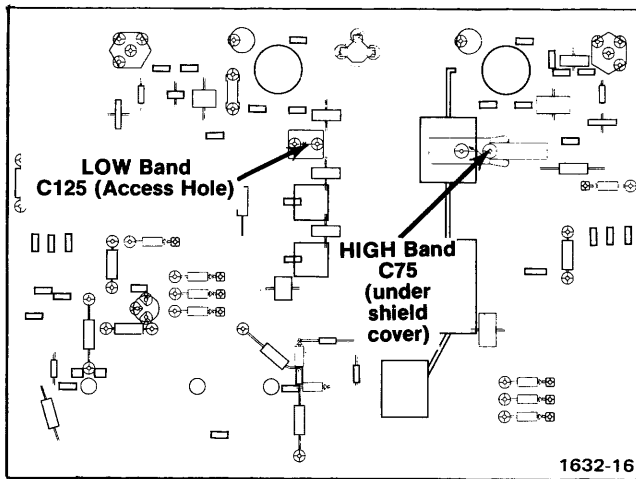

Fig. 3-6. Location of low band and high band adjustments on RF circuit board.
k. Adjust—Low Band, C125, for a minimum voltage reading on the digital voltmeter. (The minimum voltage point—greater than 14 volts, but less than recorded value in Step 3 part f— is very sensitive to the adjustment of C125.) See Fig. 3-6 for adjustment location.
j. Remove the shield cover from the rf board. High Band adjustment C75 is located near Q70 and is a slug-tuned capacitor. See Fig. 3-6 for reference.